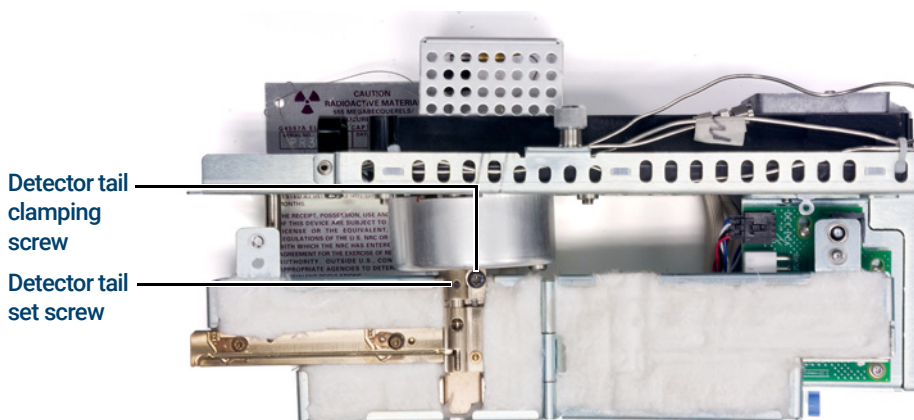

Figure 21. Detector tail clamping screw and set screw
- 30** Use a T20 Torx driver to loosen the detector tail clamping screw. See **Figure 21**.